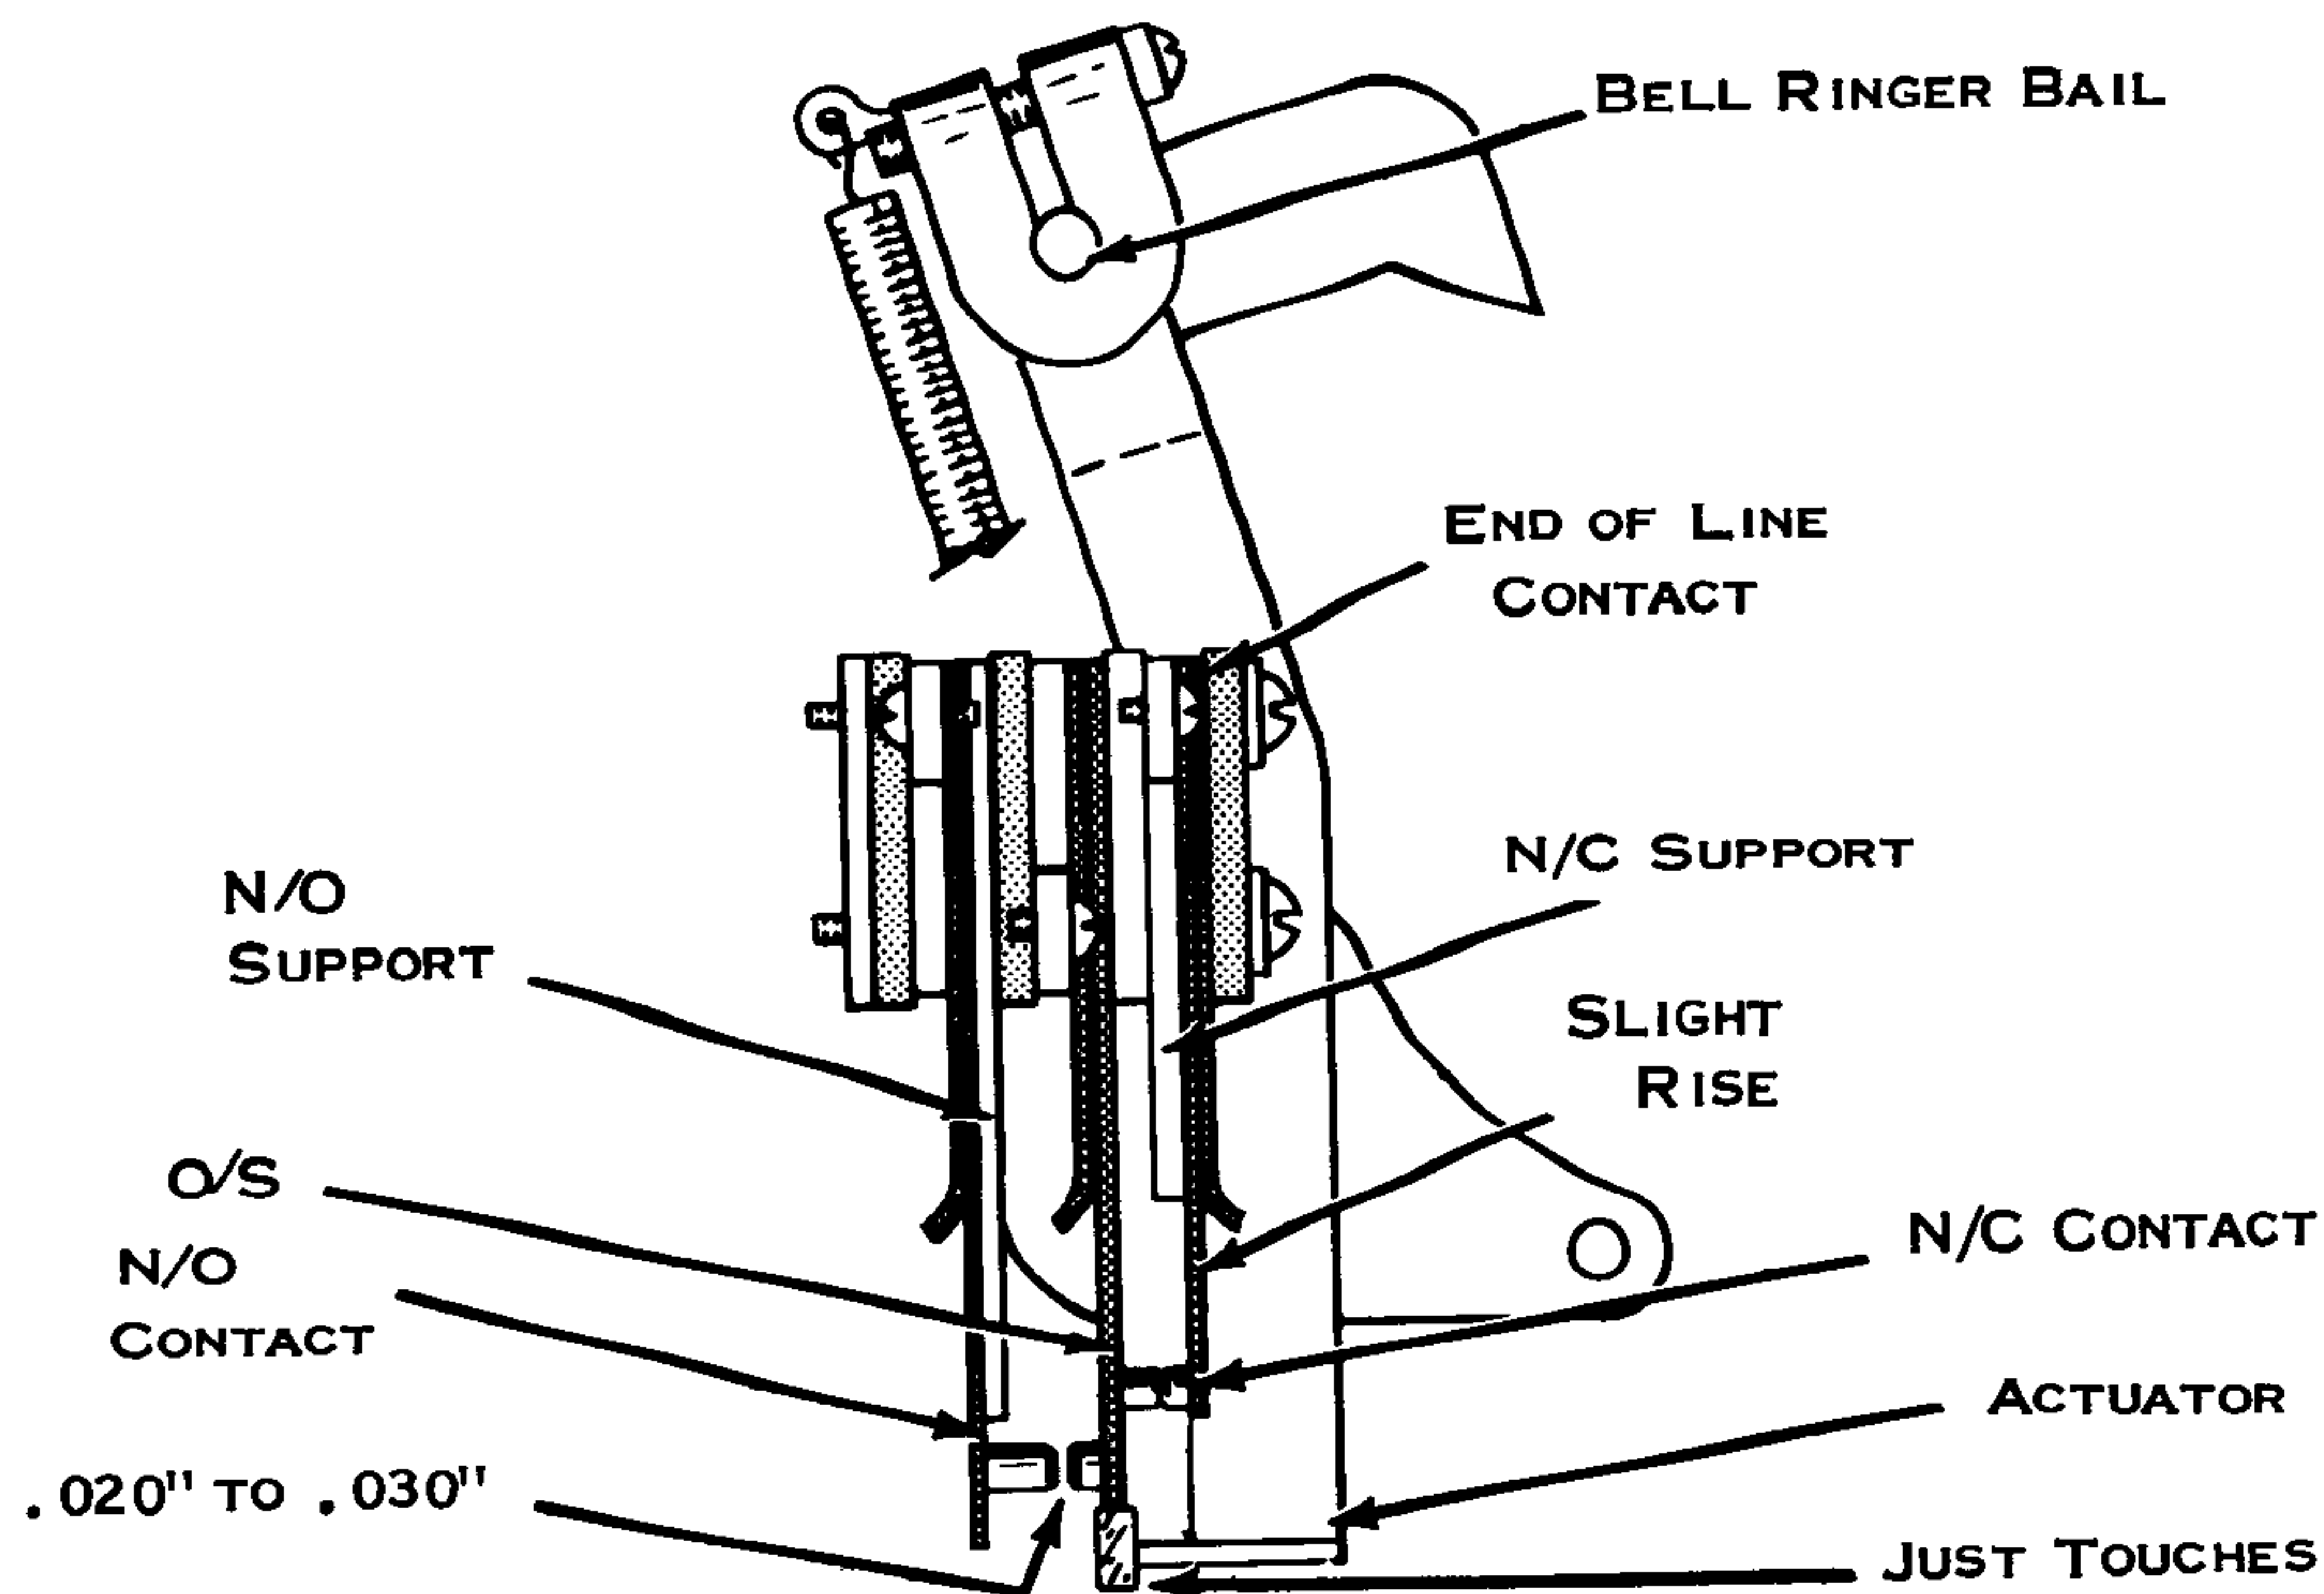

Figure 194. End Of Line Contact Adjustment
10. End of Line Contacts (Fig. 194) -